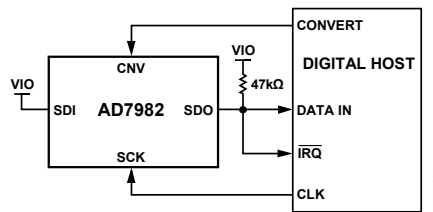
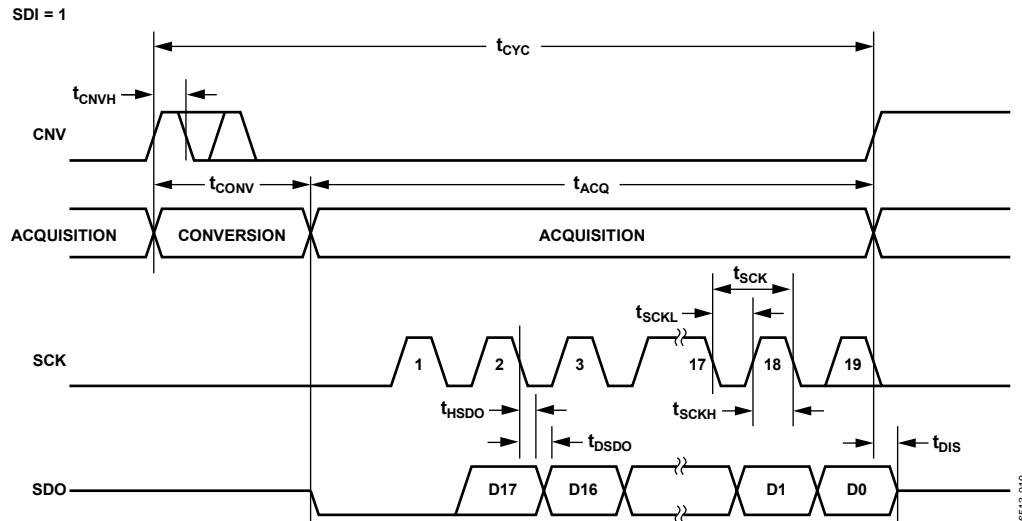
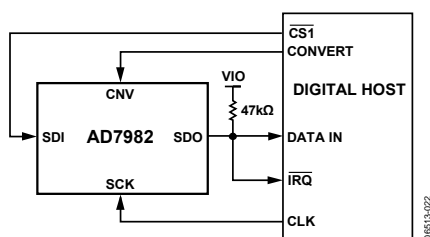
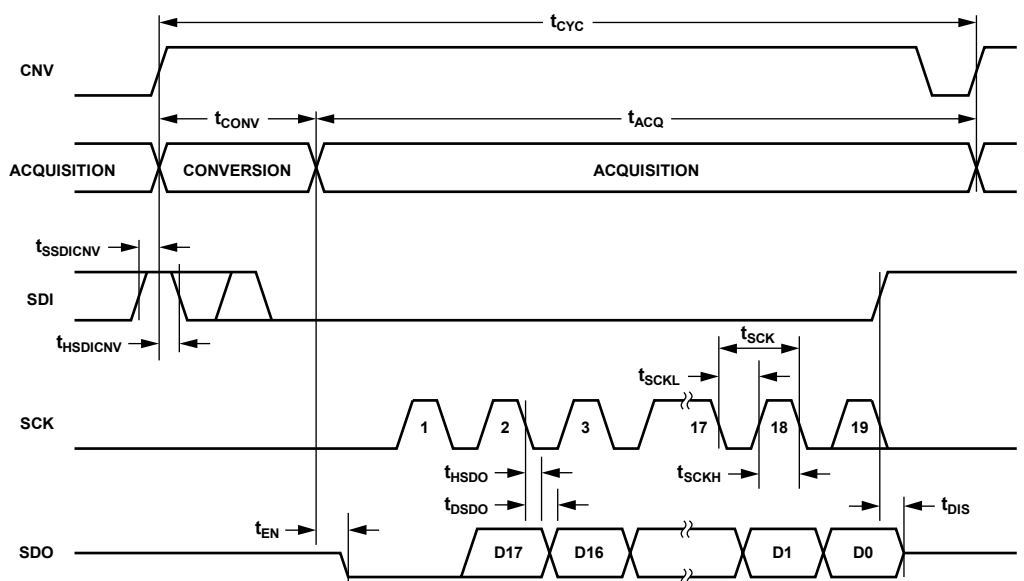

Figure 31. $\overline{\text{CS}}$ Mode, 3-Wire with Busy Indicator Connection Diagram (SDI High)
Figure 32. $\overline{\text{CS}}$ Mode, 3-Wire with Busy Indicator Serial Interface Timing (SDI High)
Figure 35. $\overline{\text{CS}}$ Mode, 4-Wire with Busy Indicator Connection Diagram
Figure 36. $\overline{\text{CS}}$ Mode, 4-Wire with Busy Indicator Serial Interface Timing
- In the $\overline{\text{CS}}$ mode if CNV or SDI is low when the ADC conversion ends (see Figure 32 and Figure 36).
The connection diagram is shown in Figure 31, and the corresponding timing is given in Figure 32.
The connection diagram is shown in Figure 35, and the corresponding timing is given in Figure 36.